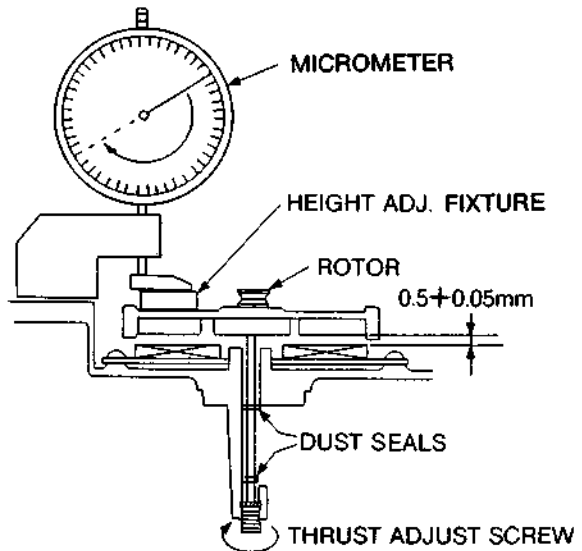

Fig. 2-10
- Adjust thrust screw pos. no. 41(1) so that the thrust gap becomes 0.5 ... 0.55mm, see Fig. 2-10.